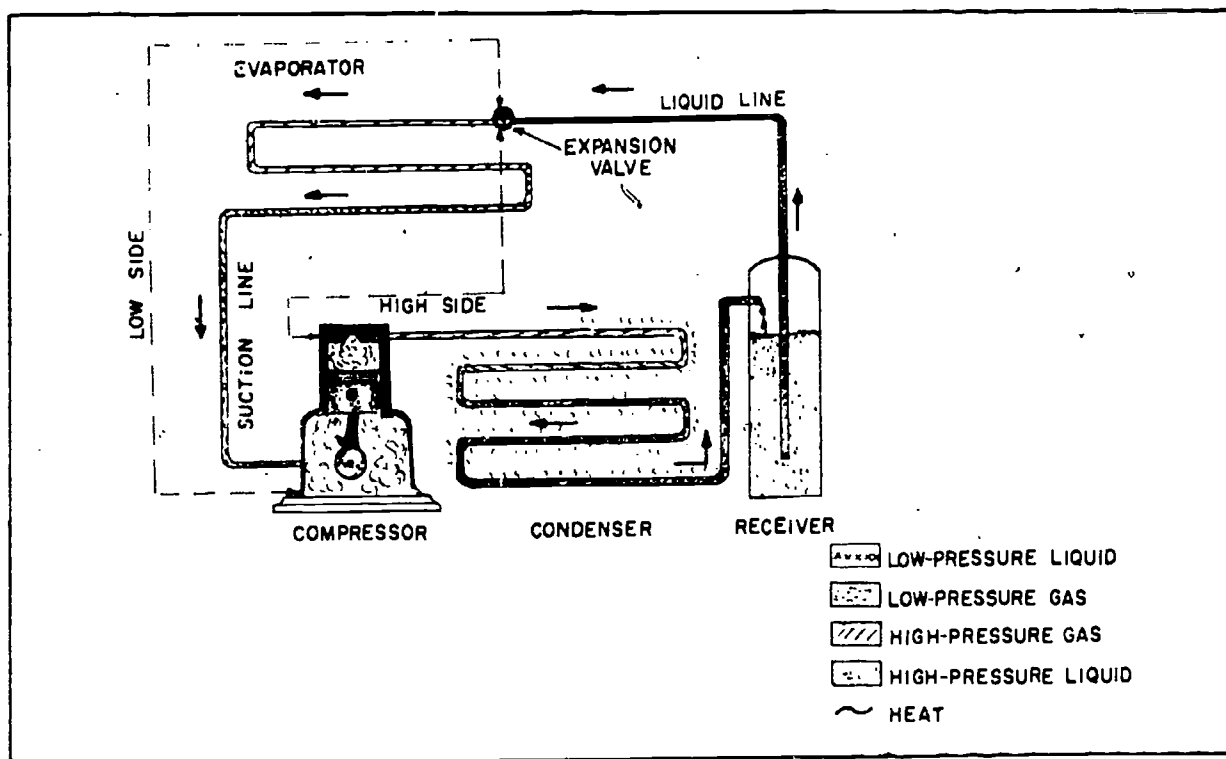

Fig 1-6. Compression system.
b. Compression system (fig 1-6): The compression system produces a lower temperature by employing the theory of latent heat, pressure differences, and heat transfer. The transfer of heat is accomplished by using a liquid (refrigerant) which vaporizes at a low temperature and pressure. Once the vapor has absorbed the heat, it is compressed and raised to high temperature and pressure. It is then condensed back to a liquid - thereby dissipating the heat. Thus this cycle consists of a high-pressure side and a low-pressure side. As the piston moves down, low-pressure gas enters the compressor through the inlet valve. As the piston starts up, the vapor is compressed increasing the temperature and pressure. (This temperature increase is greater than the temperature of the cooling medium which surrounds the condenser.) When the piston approaches the top of the cylinder, the discharge valve opens and the high-pressure, high-temperature vapor moves to the condenser. The condenser, a series of tubes, is surrounded by a cooling medium (usually air or water). The latent heat of condensation is surrendered to the cooling medium and the vapor becomes a high-pressure, high-temperature liquid. From here the liquid flows on to the receiver, which is merely a storage place for the liquid until it is needed by the refrigerant control (usually an expansion valve). The expansion valve reduces the pressure of the liquid and meters it into the evaporator, where it absorbs heat from the area to be cooled and vaporizes to a low-pressure, low-temperature gas. Then the gas enters the suction line leading to the compressor completing the cycle. A study of figure 1-6 will show that the refrigeration cycle is divided in half with respect to pressure. From the compressor, through the condenser and receiver to the expansion valve is the high side of the system. From the expansion valve through the evaporator and back to the compressor is the low side. Regardless of size and manufacturer's design of air-conditioning equipment, the refrigeration cycle of all compression systems will be the same.